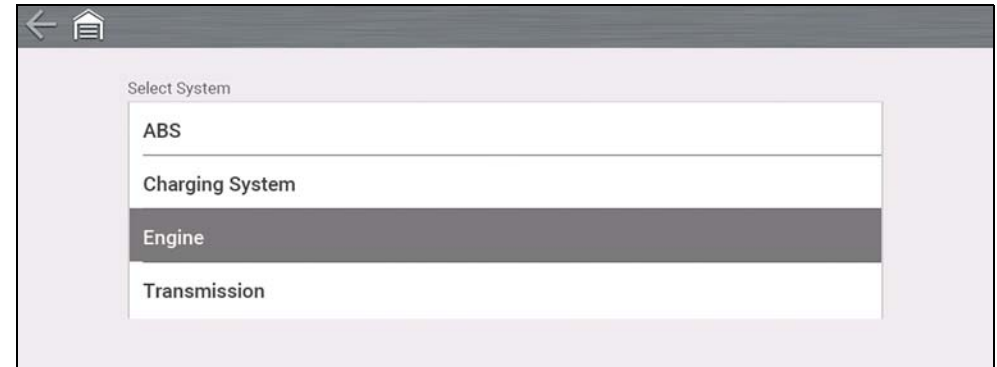

Figure 8-3
1. Select a system from the list (Figure 8-3).